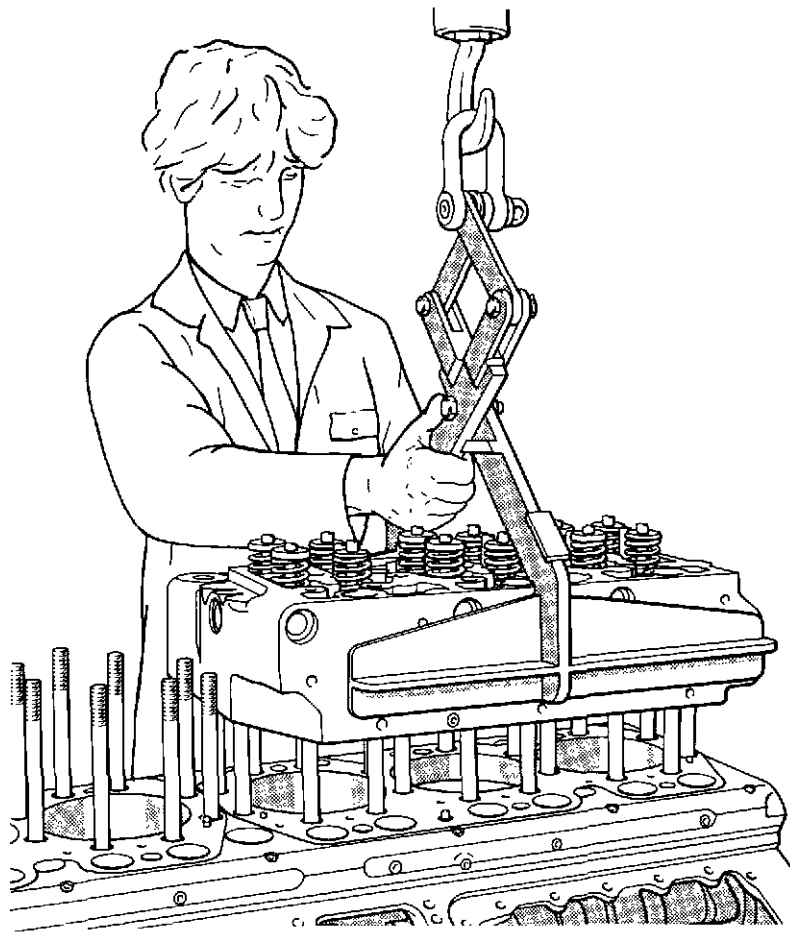

Fig. 17 Fitting cylinder head
- 41 Using the Lifting Bracket, VP 522, carefully lower the two prepared cylinder head assemblies over the securing studs, (fig. 17).